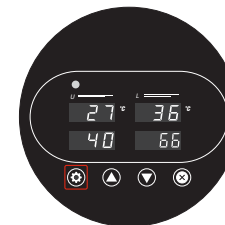

Fig. 7
7. Press Set **10** button to go to the temperature scale selection mode (Fig. 7).